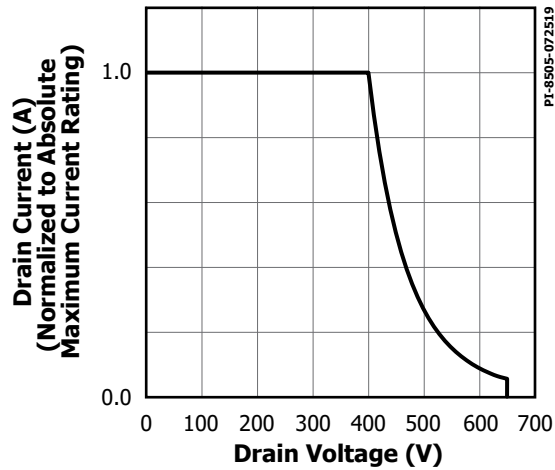

Figure 9. Maximum Allowable Drain Current vs. Drain Voltage.
3. Please refer to Figure 9 about maximum allowable voltage and current combinations.